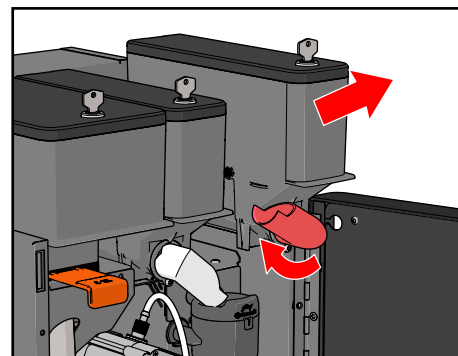

Figure 46.
3. Turn the canister spouts up, and remove the canisters one by one (see Figure 46).